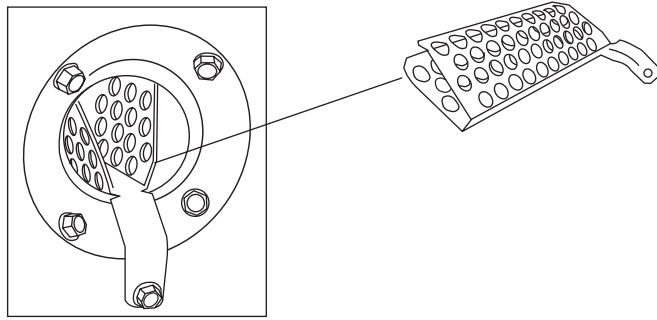

Fig. 5—NOx Device Location
- a. Remove the screw underneath the heat exchanger inlet that secures the NOx device in the heat exchanger (See Fig. 5.)